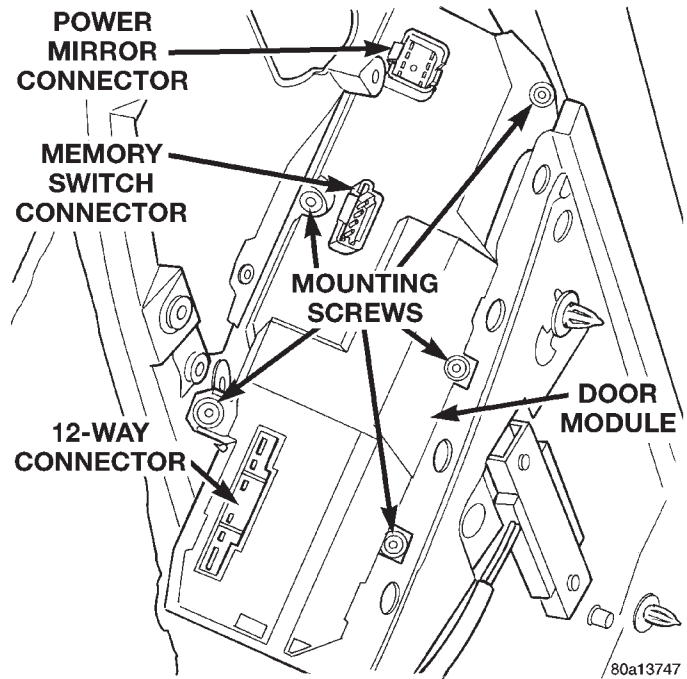

Fig. 3 Door Module Remove/Install
- (8) Unplug the wiring connectors from the door module and the door courtesy lamp, if equipped.
- (9) Remove the five screws securing the door module to the door trim panel (Fig. 3).
- (10) Remove the door module from the trim panel.
- (11) Reverse the removal procedures to install.